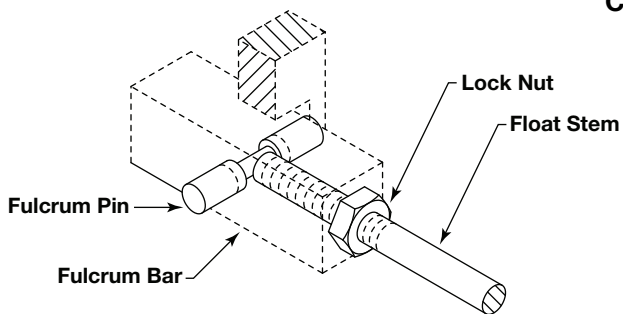

Figure 3
- Before installation, assemble float and stem to sensing unit. See Figure 3.
2. Make sure end of float stem sets completely in groove of fulcrum pin as shown in Figure 3.
- ① All models are factory set at minimum differential unless otherwise specified.
- ② To maintain maximum differential, nozzle length "L" (Fig. 3) must not exceed: 2.38" (60 mm) model T52; 1.19" (30 mm) model T63; 2.50" (64 mm) model T62 threaded; or 3.50" (89 mm) model T62 flanged.
- ③ Dimensions given are approximate and will vary slightly with each unit.
- ④ Consult factory for differentials of models not shown.